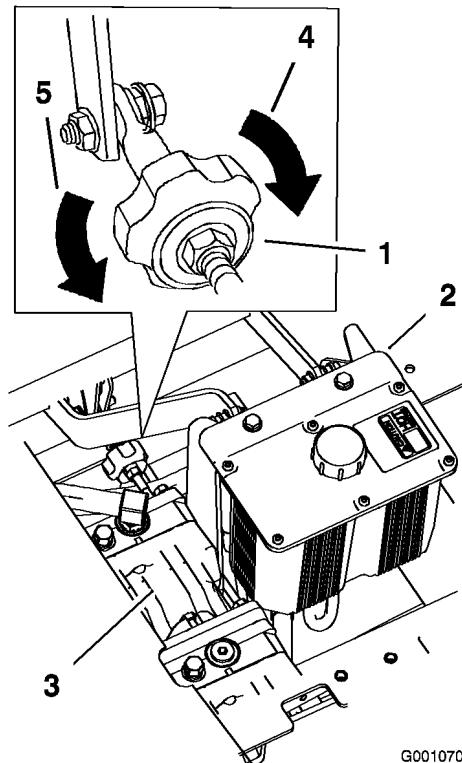

Figure 48
4. To make the machine go right, turn the knob towards the rightside of the machine. Refer to Figure 48.
5. To make the machine go left, turn the knob towards the leftside of the machine. Refer to Figure 48.